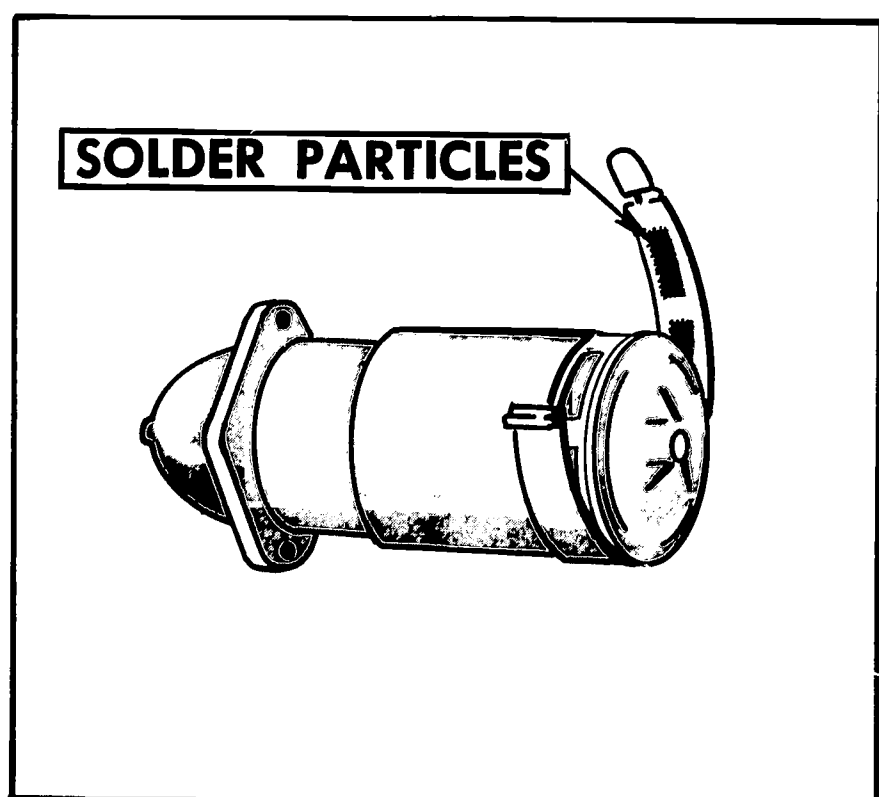

FIGURE 65. Thrown solder on cover band indicates starter or generator has been overheated.
4. *Inspect for thrown solder (Figure 65).*
If a starter or generator has been **overheated**, you can tell by the ring of solder that has been thrown against the band (Figure 65) or against the inside of the housing, if of the type without a band. If it appears that the starter or generator has been overheated, take it to a service shop. It may require expert repair.